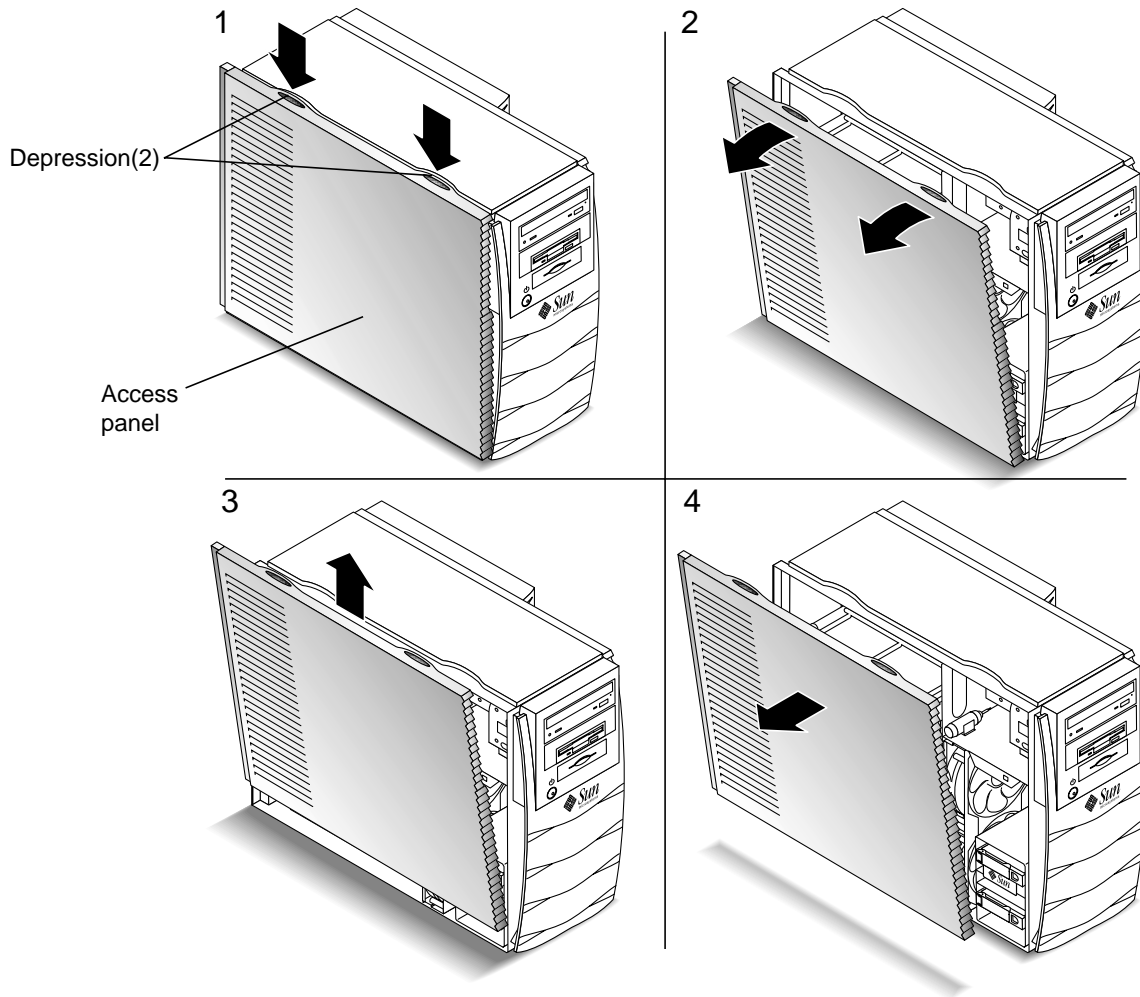

FIGURE 4 Removing the Access Panel
To remove the access panel (see FIGURE 4):
1. **Press down on the two depressions at the top of the access panel (see FIGURE 4).**